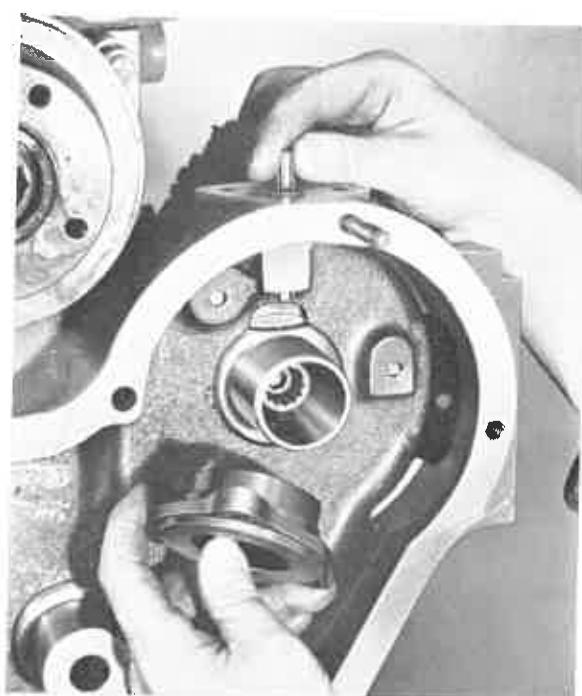

Fig. N.10. Removing Fuel Pump Drive Gear Hub.
6. Remove the circlip retaining the hub to the carrier and remove the hub (See Fig. N.10).